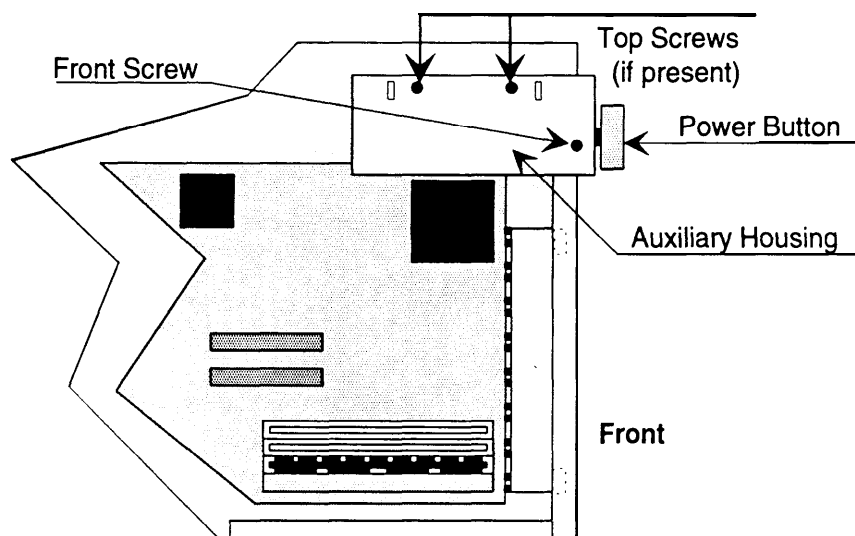

Figure 3-21. Removing Auxiliary Housing
1. Remove the screws at the top and front as shown in Figure 3-21. (The two top screws are not present on all models.)